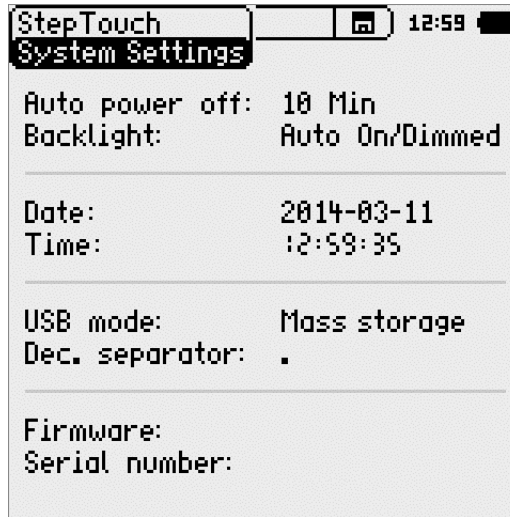

Figure 4-1 HGT1 System view
- ▶ Enter the **System** view to check if the update was successful (see Figure 4-1 "HGT1 System view" on page 14).